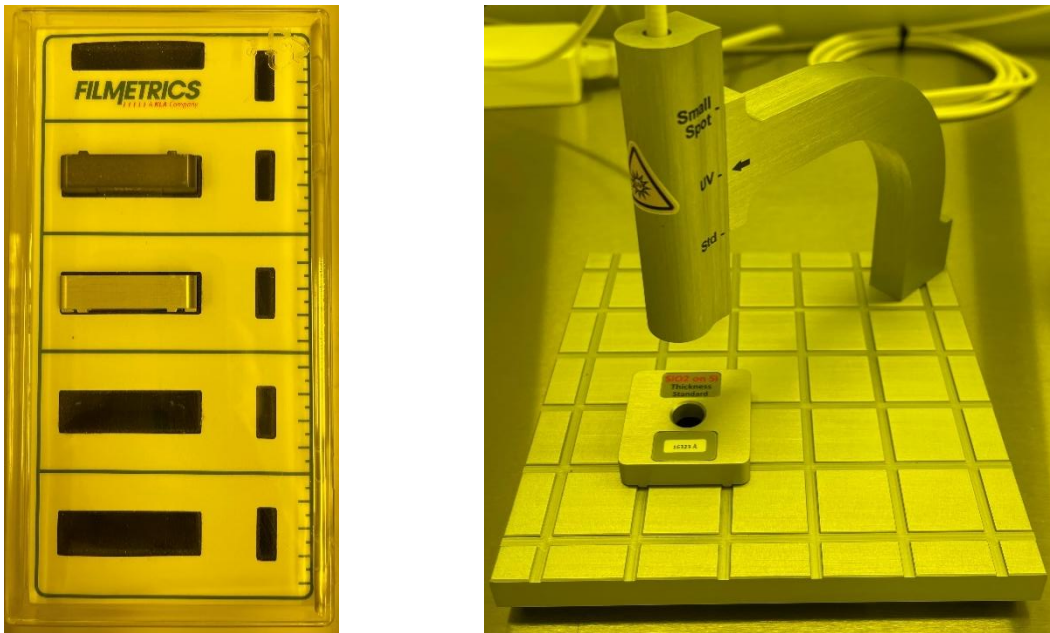

Figure 9. Reference Samples Box (left) and Sample Stage with the Reference Sample (right)
9. For the reflectance standard measurement, take the Si reference sample from the reference samples box shown in Figure 9 (left) and place it on the sample stage under the fiber optic beam, as shown in Figure 9 (right). The reference samples box is located in the drawer.
13. Take the SiO₂ reference sample from the reference samples box shown in Figure 9 (left) and place it on the sample stage under the fiber optic beam, as shown in Figure 9 (right).